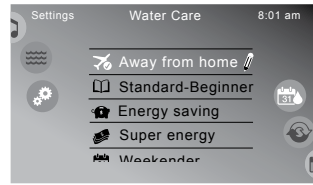

Figure 12.1b
- ✎ **Pencil Icon:** This icon will appear next to the water care mode that has been programmed. Tap to enter that mode to make changes, Figure 12.1b.